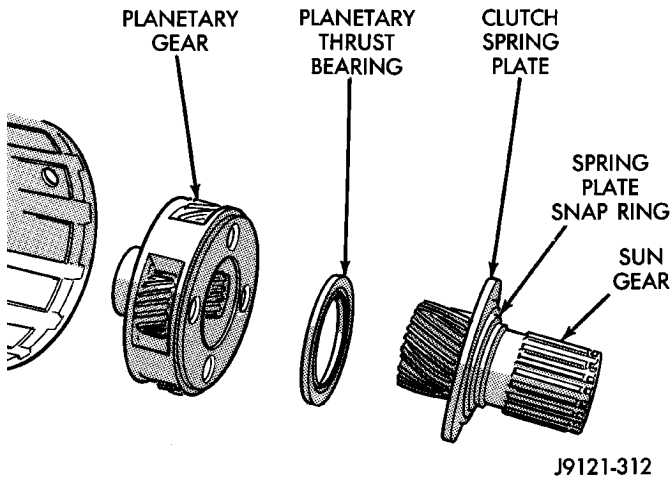

Fig. 213 Removing Sun Gear, Thrust Bearing And Planetary Gear
- (2) Remove sun gear and spring plate. Then remove planetary thrust bearing and planetary gear (Fig. 213).